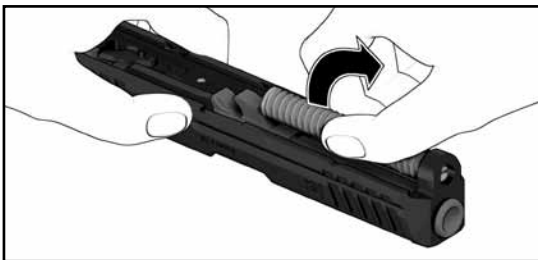

Figure 16 – Removing the recoil spring
4. Turn the slide upside down and carefully push the recoil spring forward and out to either the left or right hand side, separating the recoil spring from the barrel and slide (see Figure 16).